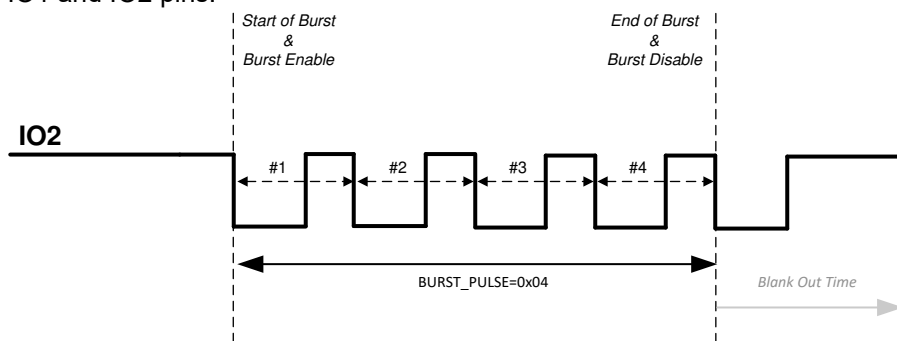

Figure 7-4. IO_MODE 3 Description
- IO_MODE = 3:** In this mode, burst enable and start of burst are both triggered by the falling edge of IO2. TI recommends that IO2 pin is kept pulled up to VDD for this mode. The device then expects a clock at IO2 pin to generate pulses on the OUTA/OUTB pins (see Figure 7-4). The number of pulses are counted by counting falling edge to next falling edge transitions on IO2 once the start of burst is triggered. End of burst sequence is signaled when the number of pulses defined in BURST_PULSE are sent. After end of burst, a blank-out timer interval defined by the DRV_PLS_FLT_DT register is started to prevent triggering of a new start of burst in the event if the IO2 pin is still toggling. After the start of burst, the state of OUTA and OUTB pins are determined by IO1 and IO2 pins.